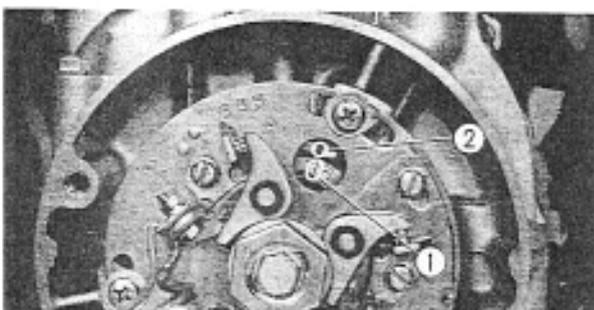

Fig. 3-21 ① "T" 1.4 mark
- Rotate the crankshaft and align the mark "T" 1.4 on the spark advancer with the matching mark as shown in Fig. 3-21.